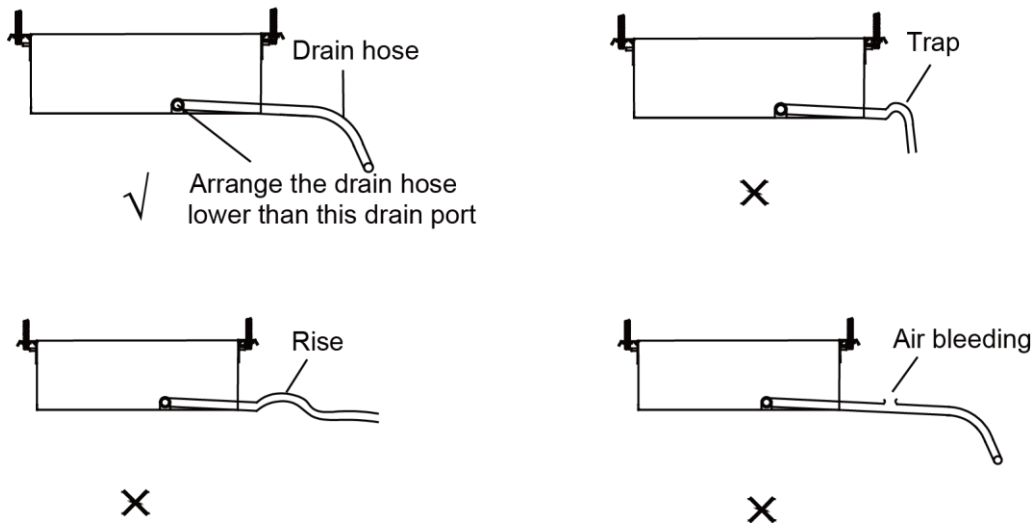

Figure 3-1-8
- (1) Install the drain hose with downward gradient (1/50 to 1/100) and no risers or traps are used for the hose.(Figure 3-1-8)
- (2) Be sure there is no crack or leak on the drain hose to avoid the formation of air pocket.(Figure 3-1-8)